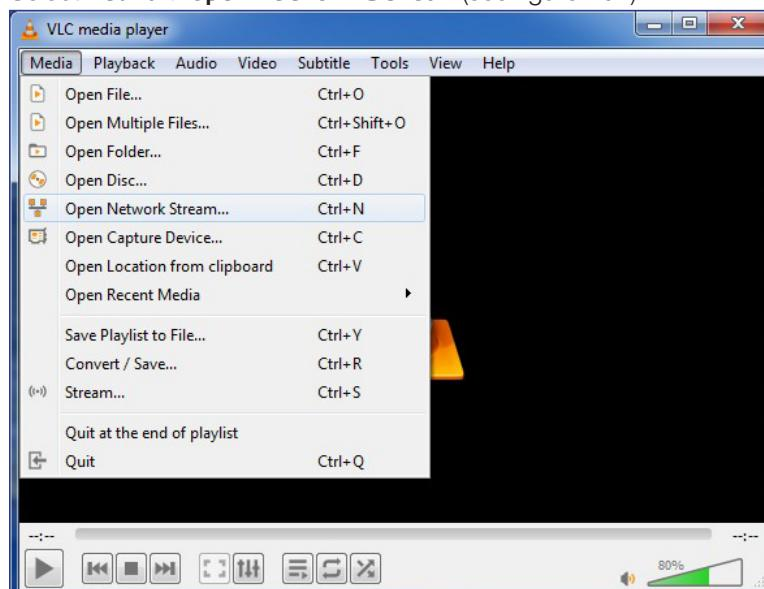

Figure 101. VLC Media Player – Open a Network Stream
4. Select **Media > Open Network Stream** (see figure 101).